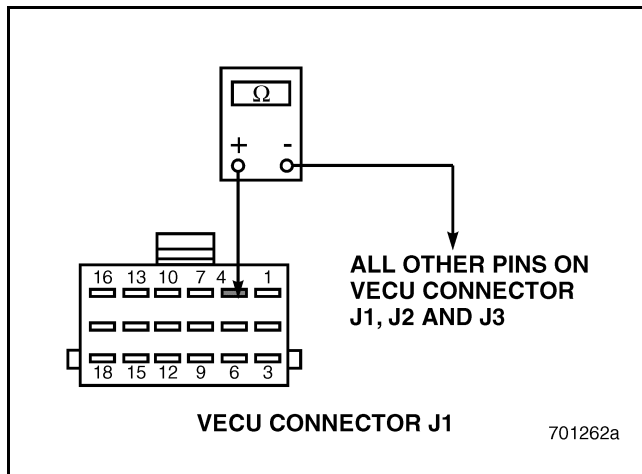

Figure 507
5. Check for continuity between VECU connector J1 pin 4 and all other pins on VECU connectors J1, J2 and J3 (see Figure 507).